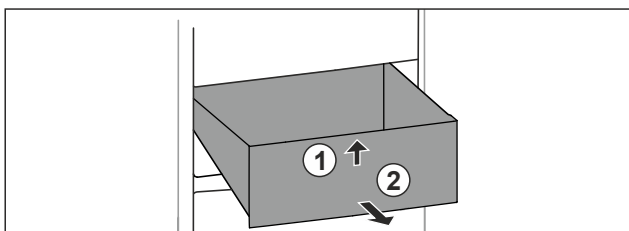

Fig. 115
- ▶ Lift up drawer at the front. Fig. 115 (1).
- ▶ Remove drawer to the front. Fig. 115 (2).